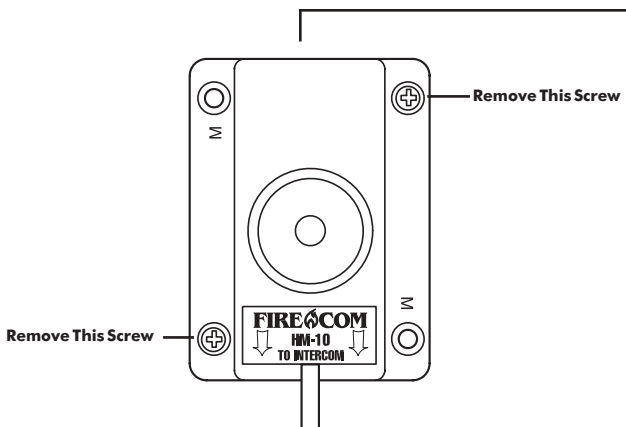

FIGURE 11:
10. Remove the screws holding the HM-10 together (Figure 11) and remove the bottom plate of the HM-10.